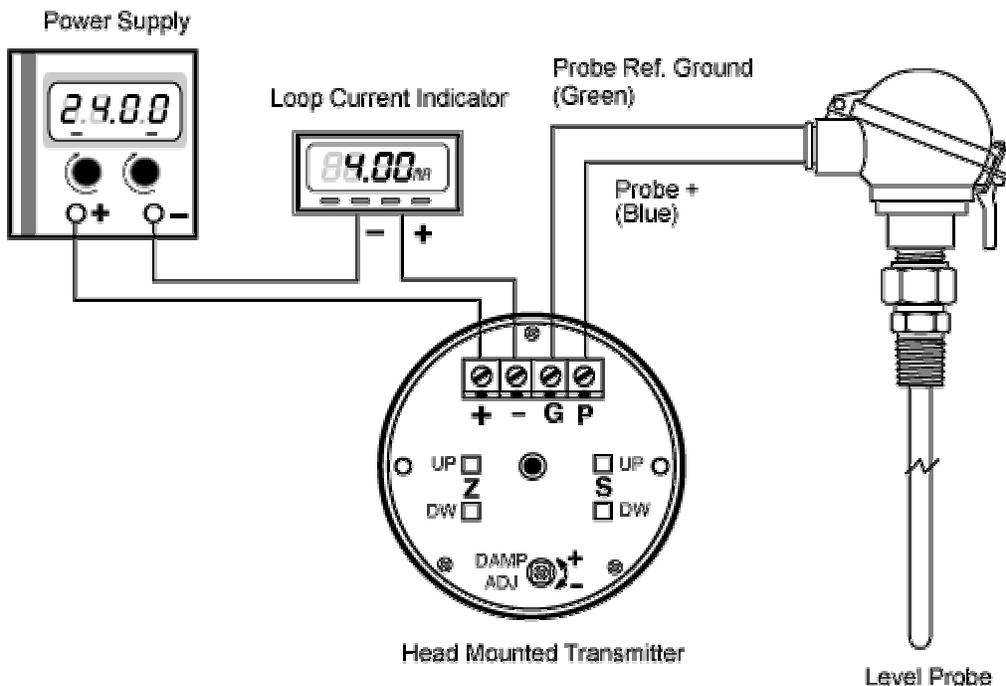

Figure 1. Head Mounted Transmitter
2.3.1 Head Mounted Transmitter Connections (Refer Figure 1.)
In order to calibrate the transmitter, you must use the loop current meter (as shown in Figure 1 or 2). It should read in the range of 1.00 to 25.00 mA, with a resolution of 0.01mA. Using a current meter with less resolution will somewhat reduce the calibration accuracy. To calibrate the instrument:
2. Connect the loop current meter as per instructions in wiring section meter (as shown in Figure 1 or 2).